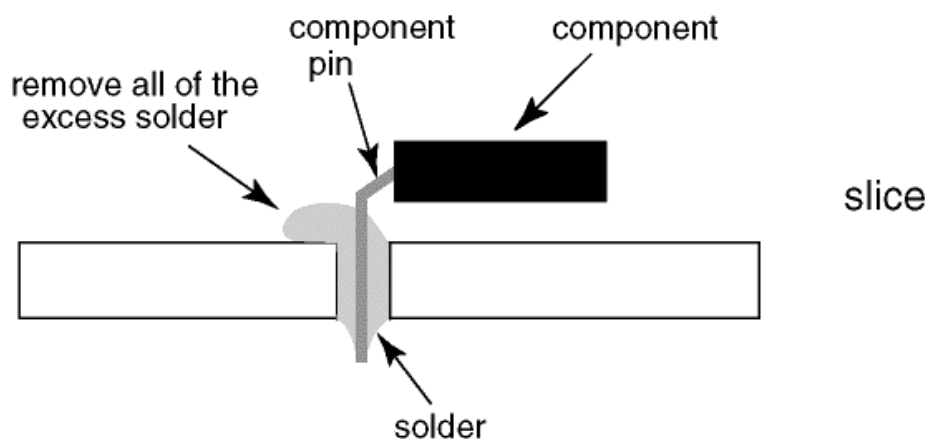

Fig.3
- After applying PbF solder to double layered boards, please check the component side for excess solder which may flow onto the opposite side. (see Fig.3)